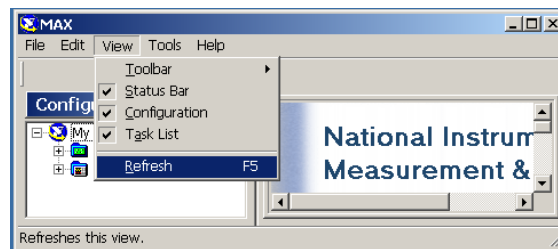

Figure 2. View >> Refresh: National Instruments Measurement & Automation Explorer
- c. Refresh the screen by using the dropdown **View** menu at the top of the dialog (**View >> Refresh**), as shown in Figure 2, or press the **F5** key.